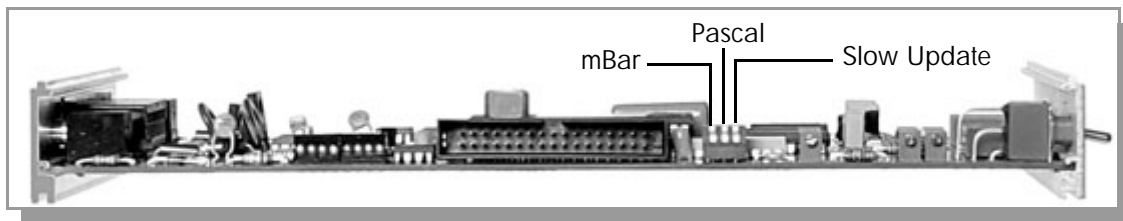

Figure 2-5 Convectron Gauge Module Top View.
3. Locate the Convectron Gauge module (see Figure 2-5).
When “ON”, this the Slow Update switch on the Convectron module enables pressure averaging. The display will be updated approximately every 3 seconds. When “OFF”, the update period is approximately 0.5 seconds. Refer to Figure 2-5.